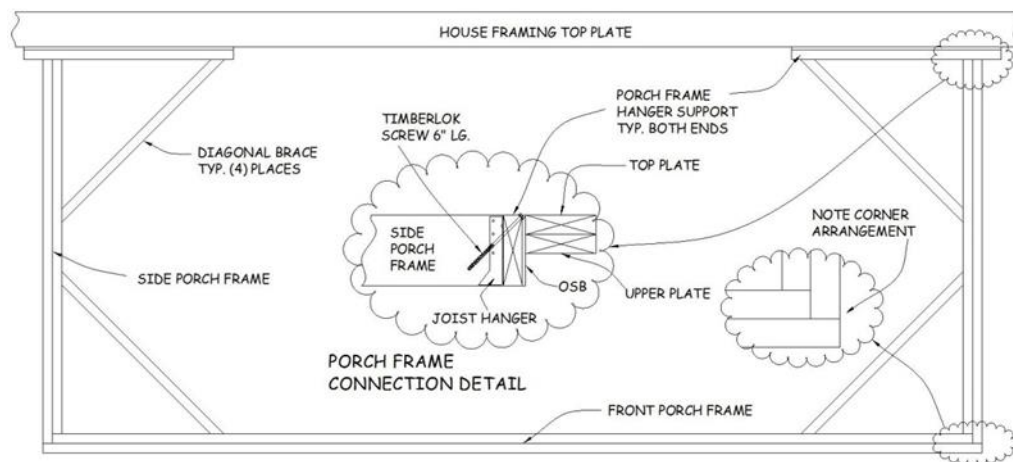

Figure 6-1. Porch Bracing.
2. At both ends of the porch, a horizontal 4' length of 2x6 will be attached to the outside of the exterior wall as shown in Figure 6-1. The 2x6 will be flush with the top plate, with the outside end aligned to the edge-of-concrete mark made in Step 1. If there is OSB and ½" foamboard attached to the wall where the 2x6 will be attached, hold the 2x6 in place against the foam and trace around it. Cut and remove the section of ½" foamboard at the traced lines. If there is 1" foamboard attached to the wall cut out the section where the 2x6 will go. In this latter case, attach a ½" x 5½" x 4' piece of OSB to the stud wall using 8d nails and then attach the 2x6 over that. This will ensure that both of the porch frame depth dimensions will be equal.
assembly, use a 2x4 or 2x6 block to ensure a 1½” offset. Nail the two pieces together with ¾” Paslode nails every 12” at an angle so points do not protrude. Take each 2x6 pair and place the flush end into the joist hanger. Make sure the shorter 2x6 faces the center of the porch. Stand a 2x4 (temporary post) on end on the concrete 6” from the unsupported end. Level the 2x6s and clamp and nail the 2x4 to it with two 16d duplex nails. Holding the flush end tight to the house, drive a 6” TimberLok screw through the 2x6 joist hanger support into the ends of each of the side porch frame 2x6s (see detail in Figure 6-1). Then, toenail into it through the 2x6 joist hanger support with 16d nails.
8. At the house wall, measure the distance between the two outside faces of the end pieces. Cut one 2x6 to this length, and one 3” shorter. Lift the shorter of the two into place and nail it to the ends of the inside 2x6 end pieces, keeping the ends flush top and bottom, and the outside end pieces tight. Nail the longer of the two pieces to the ends of the outside end pieces, keeping the ends flush with the outside face of the end piece (see Figure 6-1). Use three ¾” Paslode nails at each joint. Nail the 2x6 pairs together with three ¾” Paslode nails every 24” along the length of the headers. Use a clamp or other method to keep the top and bottom edges flush. Put the nail in at an angle to be sure the points do not protrude.
9. Cut four 2x6 pieces about 40” long to be used as diagonal braces, after checking the length required. Cut a 45° bevel on each end. These will be installed diagonally in all four inside corners of the porch framing to hold them square (see Figure 6-1).